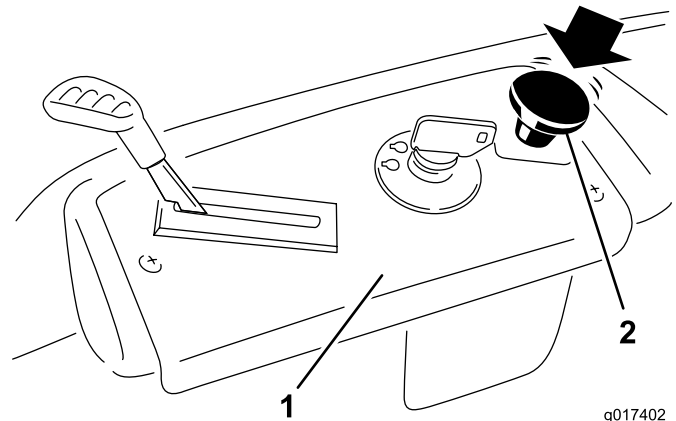

Figure 12
2. Disengage the blades by moving the blade control switch to Off (Figure 12)